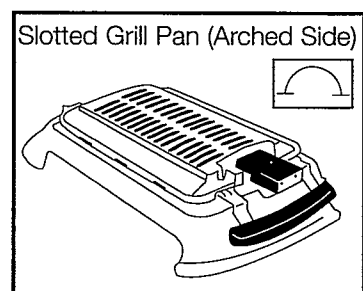

Figure 4
- Use the Slotted Grill Pan to grill all your favorite foods—like well-trimmed steaks, lean hamburger patties, lamb, pork roast, etc.—right from the convenience of your kitchen! Use the Slotted Grill Pan "arched" side up (see Figure 4) to cook bacon, flank steak, and chicken, etc.